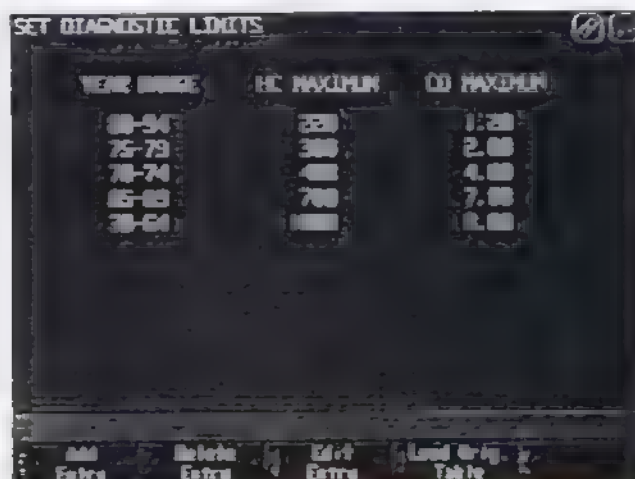

Figure 5-21
Select "Set Diagnostic Limits" from the "Utilities" menu. The "Set Diagnostic Limits" screen appears (see Figure 5-21).
- [F4] – Loads the default table (shown in Figure 5-21) into computer memory.